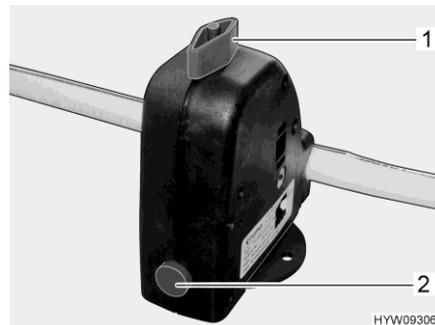

Fig. 232 Safety/drainage valve (boiler)
The boiler is equipped with a safety/drainage valve (Fig. 232). The safety/drainage valve prevents water in the boiler from freezing, when there is frost and the heater is not switched on.
- Close the safety/drainage valve. Turn the knob (Fig. 232,1) perpendicular to the safety/drainage valve and push the push button (Fig. 232,2) in.
- Open the safety/drainage valve. To do this turn the knob (Fig. 232,1) parallel to the safety/drainage valve. The push button (Fig. 232,2) jumps out. The boiler is drained to the outside by the safety/drainage valve.